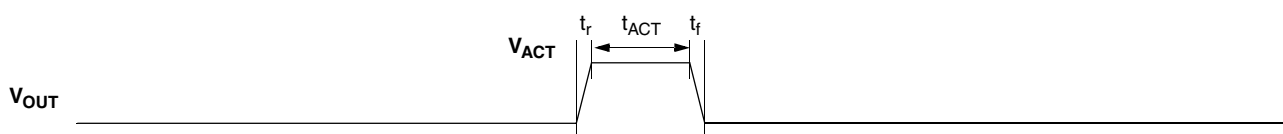

Fig. 6-5: Activate pulse
- Activate a sensor (see Fig. 6-5)